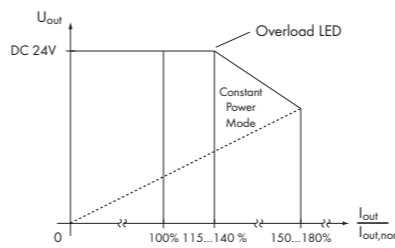

Fig. 4: Output characteristics
The equipment's output is electronically protected from overload and short circuits. The output voltage U_{out} is reduced for an output current I_{out} in dimensional range $1.15 \times I_{out,nom} < I_{out} < 1.4 \times I_{out,nom}$ (see Fig. 4). The red LED [Overload] will light up. In case of short circuit ($I_{out} > 1.5 \times I_{out,nom}$), the red LED [Overload] will start flashing, and output voltage U_{out} will be turned off. The device will turn on the output voltage periodically and test the output circuit for short circuit. After eliminating the overload or short circuit, the power supply unit automatically supplies the output voltage as indicated.
2.5 A (at DC 24V, see Fig. 4)